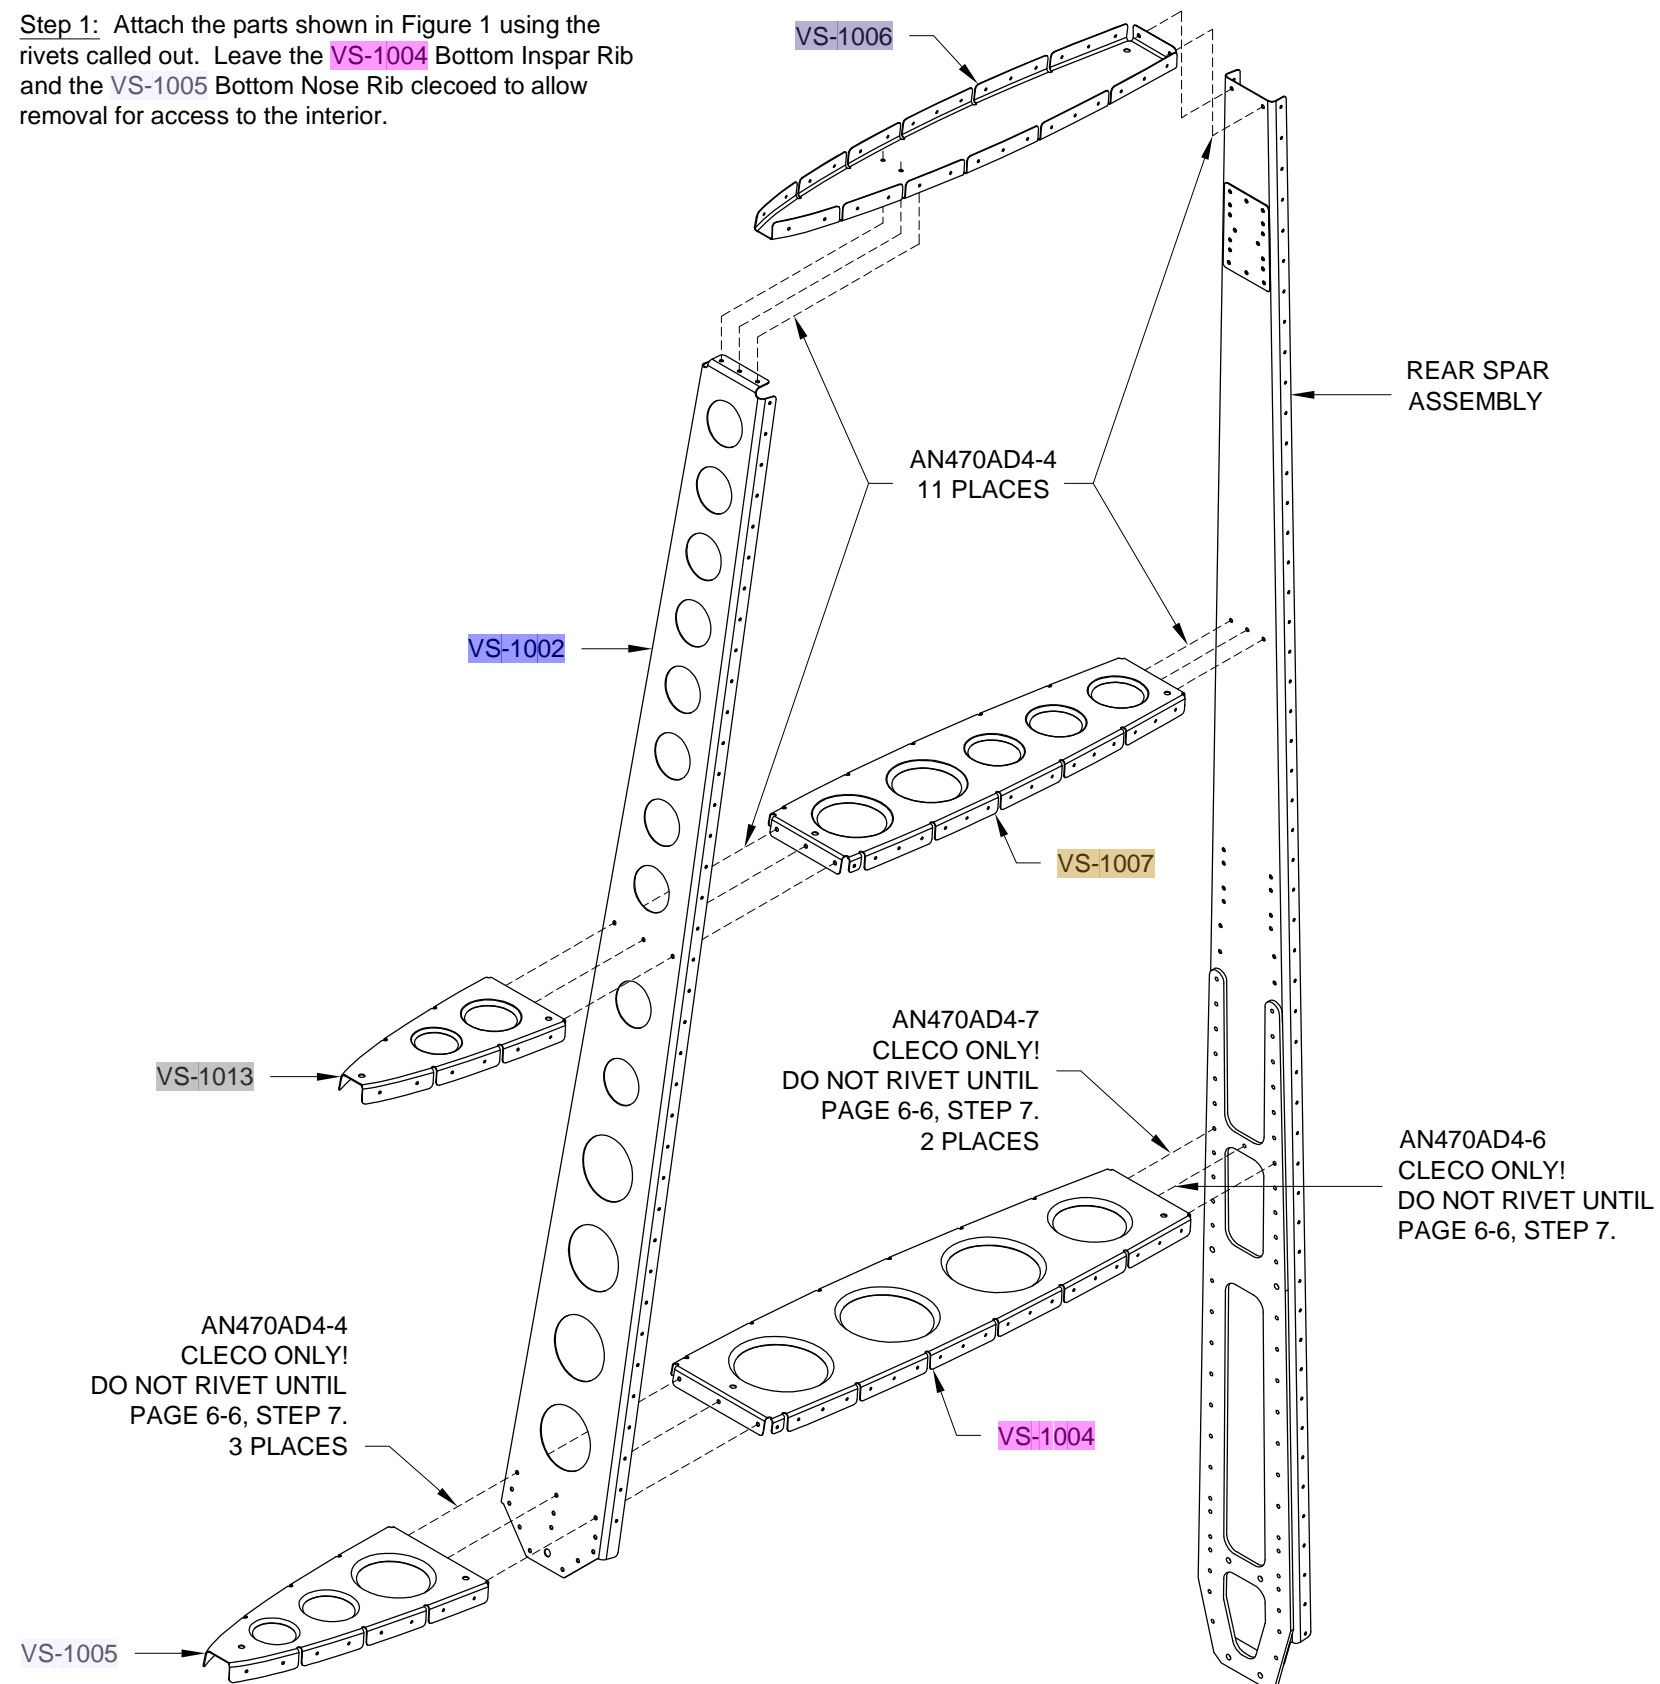

FIGURE 1: RIB RIVETS
Step 1: Attach the parts shown in Figure 1 using the rivets called out. Leave the VS-1004 Bottom Inspar Rib and the VS-1005 Bottom Nose Rib clecoed to allow removal for access to the interior.
Step 1: Cleco the VS-1001 Vertical Stab Skin to the skeleton. Use plenty of clecos to keep the parts aligned while riveting. Figure 1 provides rivet sizes for the vertical stab skin.